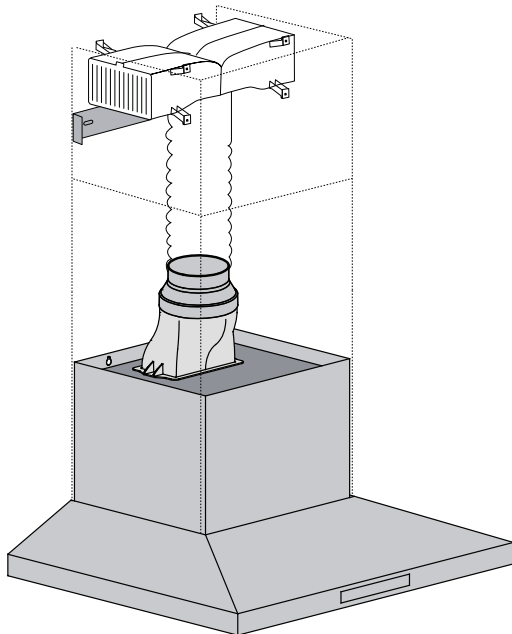

Fig. 10
- 6a. Recirculating mode** (Fig. 10). Using the centre line, secure the recirculating T-piece to the wall with suitable screws/fixings (optional kit AR610RK). Install flexible pipe between T-piece and reducer.